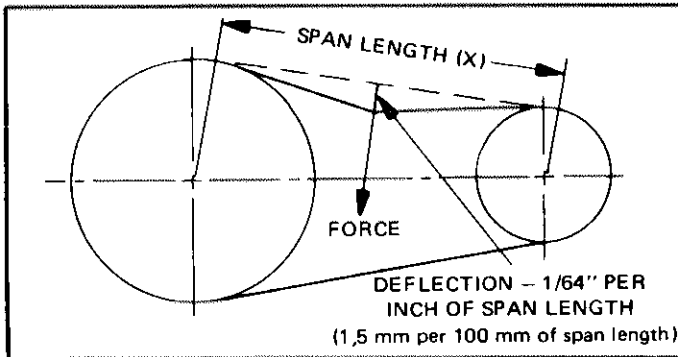

FIGURE 6
- 1—Measure span length, X. Refer to Figure 6.